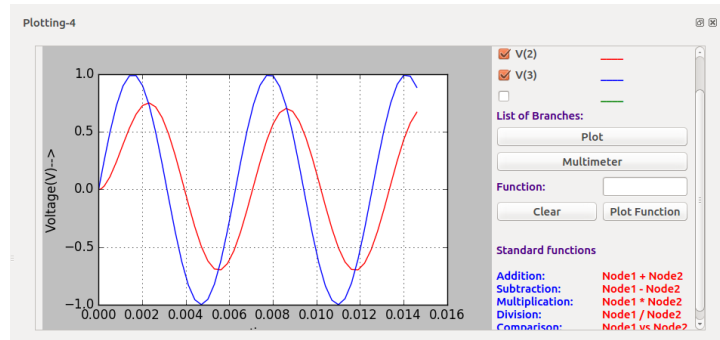

Figure 10.4: Simulation: Low pass filter
4. Simulate the ngspice netlist. The simulation curves are shown in Fig. 10.4.